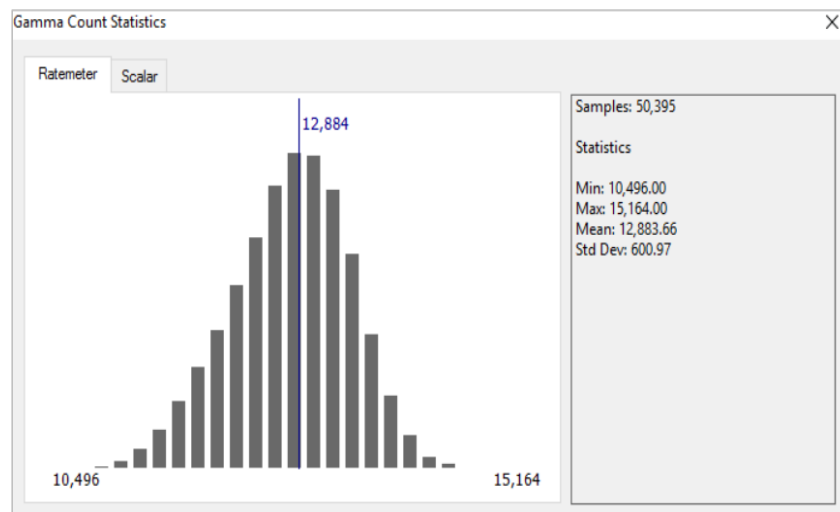

Figure 14 Gamma Count Statistics Window
- e. A histogram window will be displayed as shown in Figure 14.